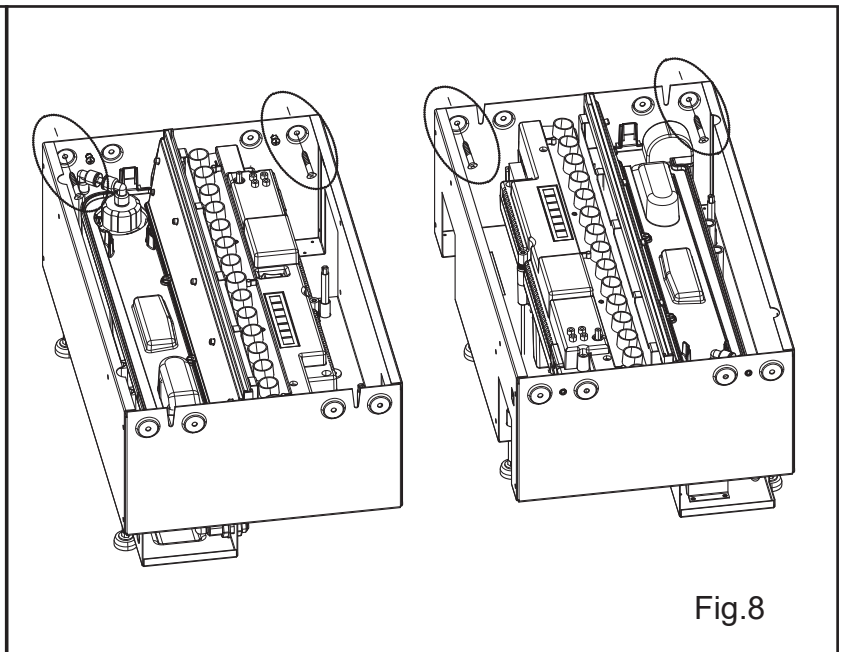

Fig.8
4. With the product in its final position, remove the fuel bed and using suitable screws (not provided) screw the product to the surround using the four fixing holes shown in Fig 8.